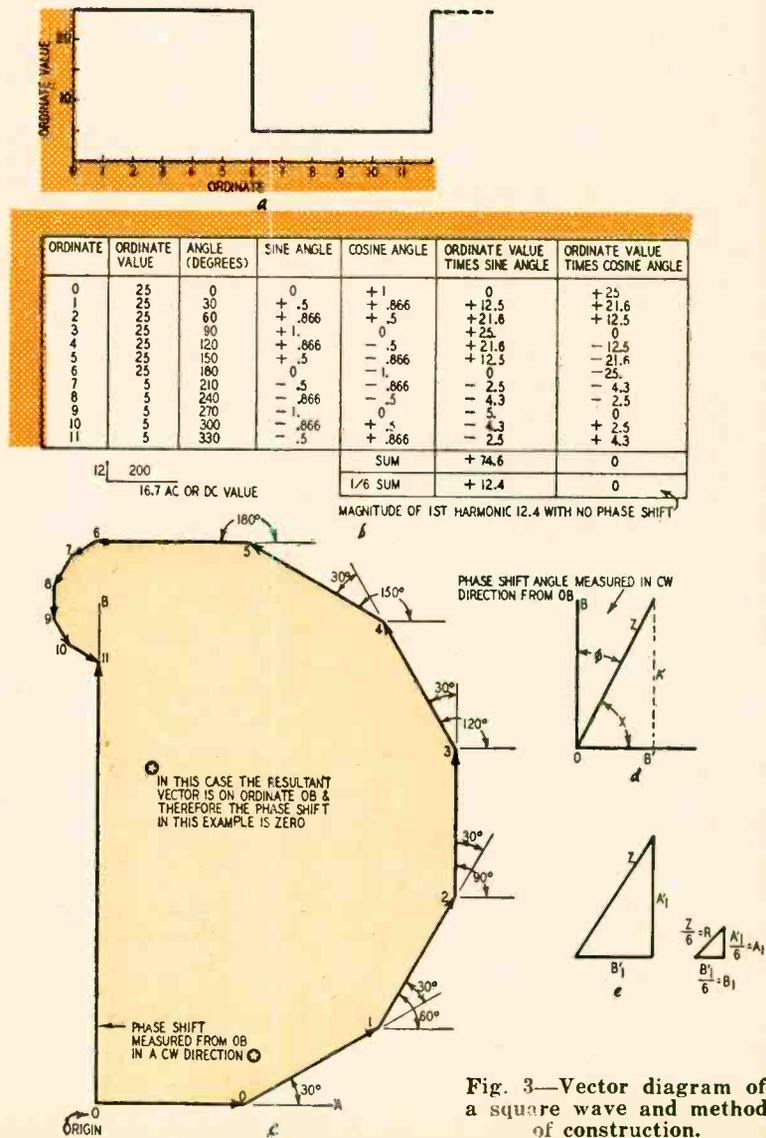
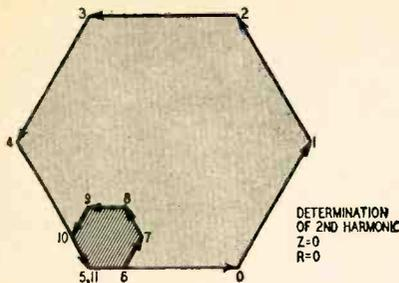
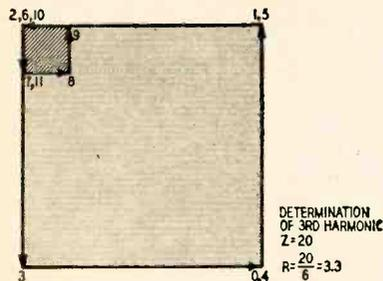

Fig. 3—Vector diagram of a square wave and method of construction.
Fig. 4—Vector diagram of a square wave's second harmonic.
Fig. 5—Vector diagram of a square wave's third harmonic.
Let us work with the square wave of Fig. 3-a. The 360° are divided into 12 intervals and the ordinate length determined. The table (Fig. 3-b) is then made. Next the respective ordinate values are placed end to end in a *vector polygon* (see Fig. 3-c) with each ordi-
The *resultant vector Z*, drawn from the point of origin to the end of the last of the ordinates, gives the total value of all the vectors and can be analyzed in terms of its component vectors. The sum of the ordinate (vertical) values of these is equal to the vertical value of the resultant. The sum of the abscissa (horizontal) values of the vectors is equal to the horizontal value of the resultant. Each vector value in the table (Fig. 3-b) times the sine of its respective angle gives the ordinate value ( $A_1$ ) and each of them multiplied by the cosines of their respective values gives the abscissa value ( $B_1$ ).
point on the line OB of Fig. 3-c, this displacement is found by drawing a line from the origin (O) to the terminating point and measuring the angle between the two lines clockwise from OB. This angle is the phase displacement in degrees from the origin (Fig. 3-d).
The second and third harmonics are found by drawing graphs similar to those of Figs. 3-b and 3-c. Since the second harmonic is twice the frequency of the first, it will go through 60° while the first harmonic goes through 30°. Thus the ordinates are drawn at a 60° angle to each other, as in Fig. 4. The third harmonic is *three* times the frequency and the quantities are 90° apart, as in Fig. 5. Measuring our resultants, we find that the first harmonic vector is 74.6 units long, making its value 12.4 (1/6 of 74.6). The second harmonic is zero, and the third harmonic is 1/6 of 20, or about 3.3, in phase with the first harmonic.
TABLE I—DETERMINING COMPONENTS OF WAVEFORM (Values Taken From Figs. 3, 4 and 5)
tically, without drawing any figures. It is derived from Figs. 3, 4, and 5. First the dc component is found by adding the ordinates and dividing by 12. In the case of our square wave, it comes to 16.7. This is the value a dc meter would read. To find the alternating component, each value is multiplied by the sine and cosine of its angle to find a resultant value and the phase shift. The resultant is divided by half the number of ordinates used to find the amplitude of the component. This is actually what we have been doing in the diagrams. For example, a line 10 units long at an angle of 30° to the horizontal will be found to have risen 5 units.
It can be seen from Fig. 3 that vector 0 is entirely in the horizontal direction and does not contribute any vertical component to the resultant vector Z. Vector 1 has a vertical component equal to the ordinate value of the wave (at 30°) times the sine of 30°. Vector 1 has a horizontal component equal to the ordinate value of the wave (at 30°) times cosine 30°. We can find the vertical and horizontal components in the resultant vector by simply adding the vertical and horizontal components of each of the respective component vectors in turn.
When adding horizontal components a vector moving toward the right on the graph has a positive value; to the left a negative value. With vertical components a vector moving up has a positive value; down a negative value. A chart to simplify this procedure is shown in Table I. The values used are from Figs. 3, 4 and 5.